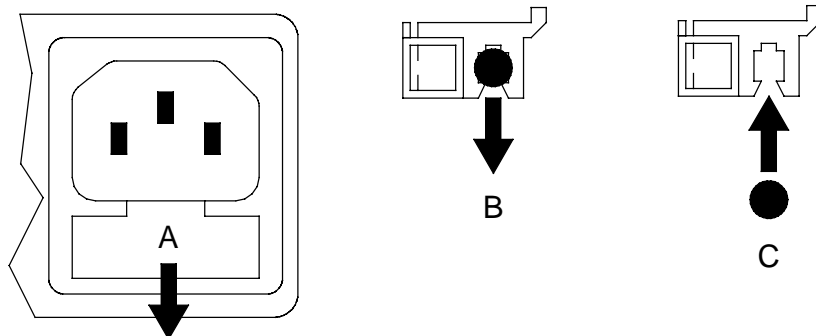

Figure 7 – Changing the Mains Fuse
Referring to **Figure 7**, remove the power cable, use a small flat bladed screwdriver to pry up the tab on the fuse carrier (A) and pull it out. Push the blown fuse out of the clip in the carrier (B) and dispose of it. Fit a new fuse in the clip (C) and push the carrier back into the unit so that it clicks home. Spare fuses are provided with the unit.